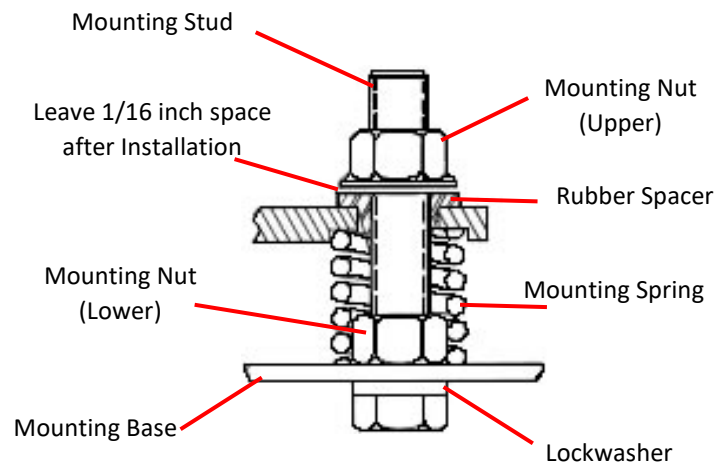

Figure 4-2: Semi Hermetic Spring Mounted Compressor
3. Allow 1/16 inch space between the upper mounting nut and rubber spacer. See Figure 4-2 below.